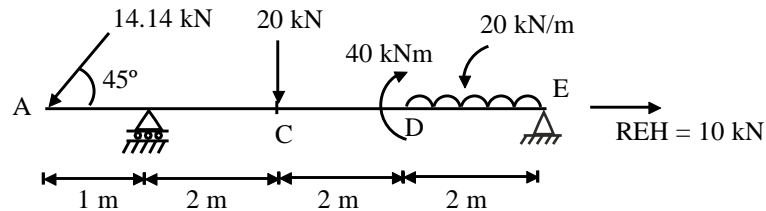

Fig. 2
- b) Draw the shear force and bending moment diagram for the beam shown in the fig.2. 9